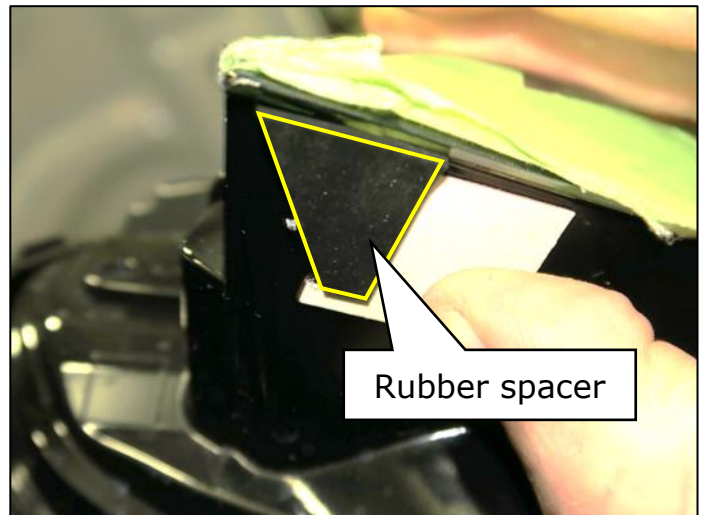

Figure 32
- Align the spacer with the template and headlamp and install the spacer into position on the headlamp (Figure 32)